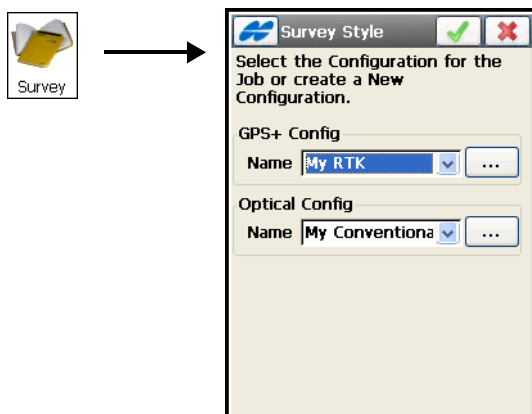

Figure 3-2. Survey Style
To configure a survey, tap the **Survey** icon or use the New Job Wizard (see “Creating a New Job” on page 2-2). The **Survey Style** screen displays (Figure 3-2).
- Pressing the ok  green tick button saves the settings and returns to the *Survey Style* screen (Figure 3-2 on page 3-4).
- Pressing the ok  green tick button saves the changes and returns to the **Survey Style** screen (Figure 3-2 on page 3-4).